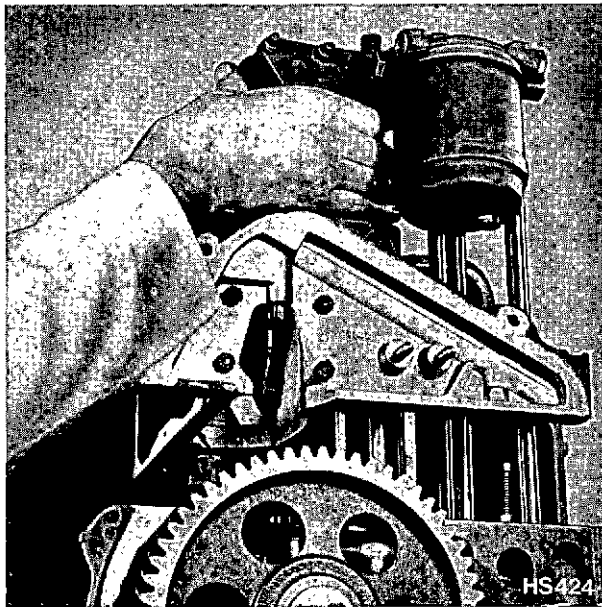

Fig. 57 Removing Fuel Pump Housing and End Plate
- (g) Remove retaining bolts and lift off fuel pump housing, end plate and fuel filter as one assembly (Fig. 57).